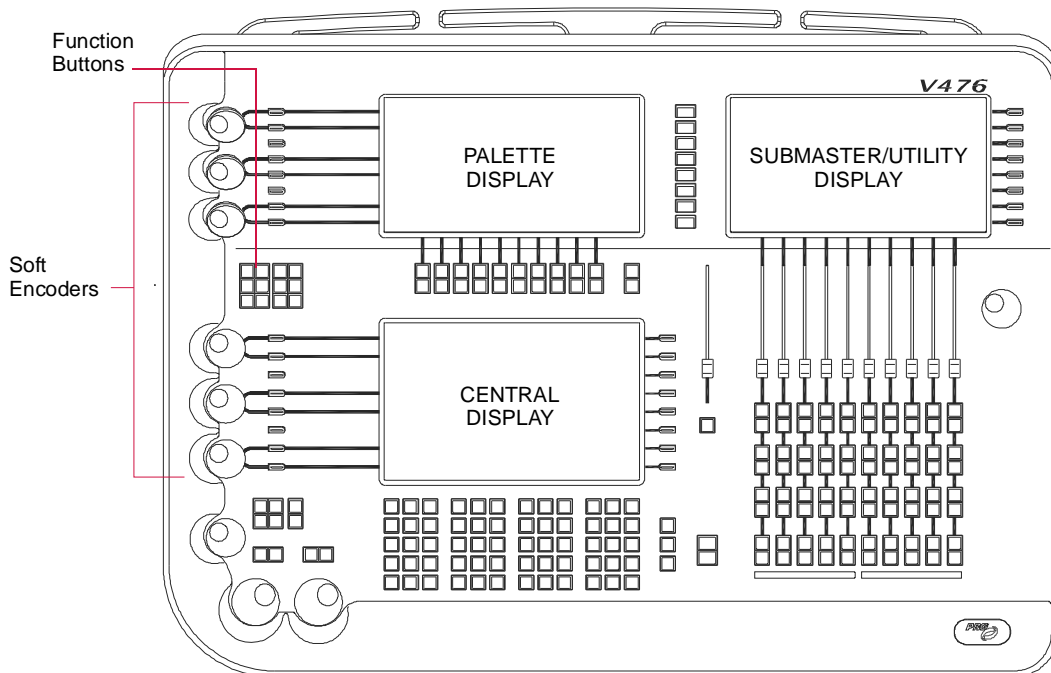

Figure 1-2: V476 Desk Layout
- + **Sliding Encoder Sidebar** - The sliding Encoder Sidebar is used with the six "soft" encoders available on the V476 desk (**Figure 1-2**). The V676 has a designated area for displaying encoder controls, but since the V476 desk is smaller, these controls are displayed using the sliding sidebar. The sidebar appears in the same space as the central and palette displays when an encoder is turned or an encoder function button is pressed.